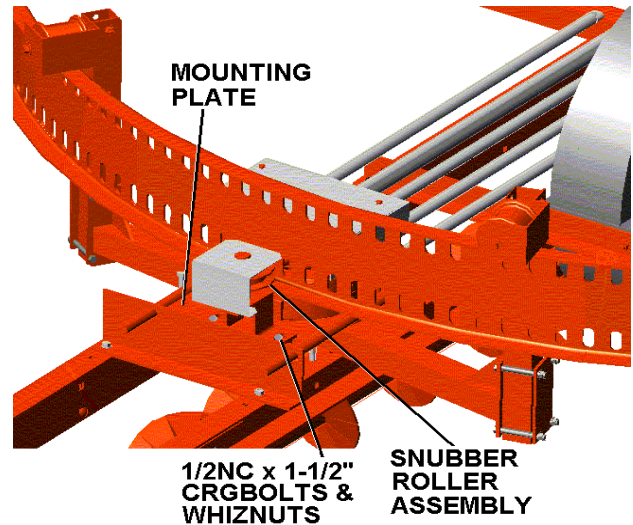

FIGURE 30
6. Bolt the snubber roller assembly to the mounting plate of the ring drive gearbox with (2) 1/2" x 1-1/2" carriage bolts and whiz nuts. Adjust the snubber roller so that only about 1/8" of clearance exists between the sprocket and drive ring. See Figure 30.